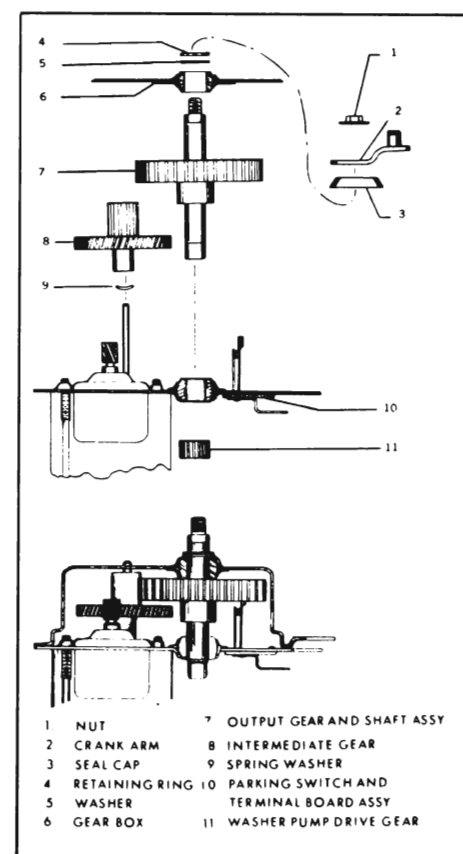

Figure 10-93—Gear Box Assembly
5. Remove output gear and shaft assembly, then slide intermediate gear and pinion assembly off shaft. (Figure 10-93).